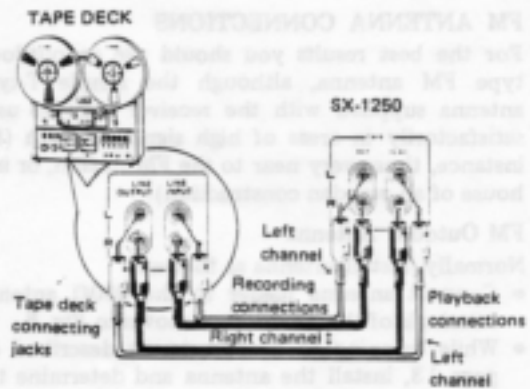

Fig. 4
Use the connecting cord(s) provided with the tape deck(s) to make the connections (see Fig. 4).
- The receiver output TAPE 1 REC jacks are connected to the recording input jacks (LINE INPUT) of the tape deck as shown in Fig. 4. The upper jack of each pair is the L (left) channel and the lower is the R (right) channel. When the tape deck is provided with a DIN-type jack for recording and playback, use an optional recording/playback cord to make the connection to the TAPE 2 REC/PLAY DIN jack.